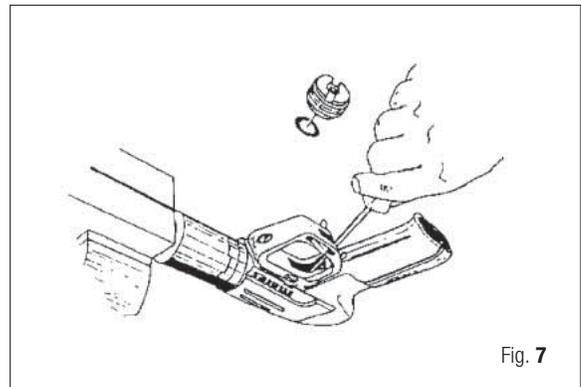

Fig. 7
15. Remove barrel O-ring (22) with tool A-7.
16. Using snap ring pliers remove the barrel bushing (21).
18. Remove trigger pin (53) using a pin punch, then remove trigger (48-52-75).
19. Remove the trigger adjustment screw (48) from trigger body (52) with a 6 mm. wrench.
20. Remove the trigger insert (75) by depressing the locking tab and sliding it out of the trigger body (52).
**NOTE** IT IS NOT NECESSARY TO REMOVE THE TRIGGER ADJUSTMENT (48) OR THE TRIGGER INSERT (75) FROM THE TRIGGER BODY (52) DURING ROUTINE SERVICING, UNLESS THEY ARE TO BE REPLACED.
21. Remove the safety (49) by sliding it out of the handle (41).
22. Remove connecting plunger (45) with special tool A-13 (Ø 3 mm) or needle nose pliers.
23. For Competition Line Spearguns starting from serial number 92296000 forward, remove connecting plunger bushing (47) using tool A22 (Fig. 7).